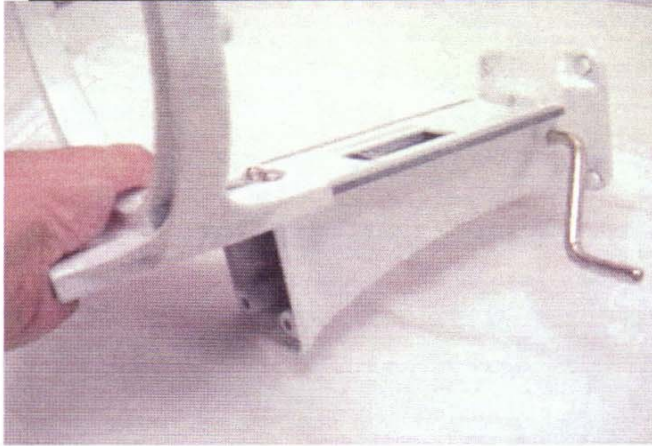

Fig. 88 Slide the bowl support down and off the column to replace the bowl lift assembly.
E. Remove the two #10-24x1/2" flat head screws from the bowl support (Fig. 87) and slide the bowl support down and off the column (Fig. 88).
I. Slide the new bowl support assembly on the column (Fig.88).